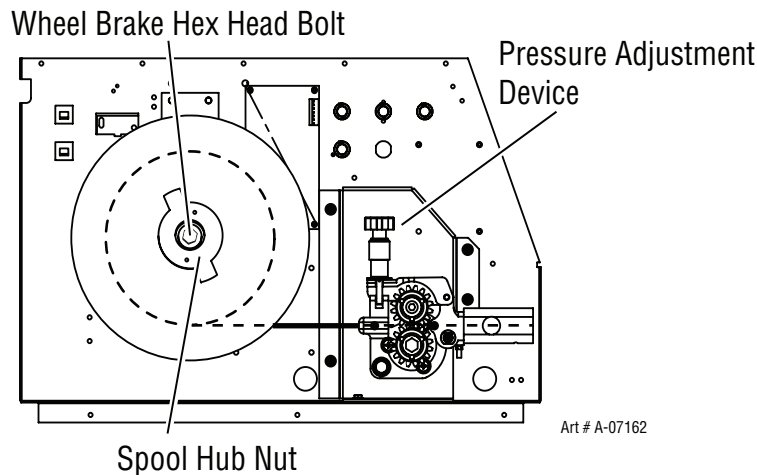

Figure 3-12: Wire Installed
The Hub tension has been pre-adjusted at the factory. However if adjustment is required, refer to section 3.12 and Figure 3-12.
8. Figure 3-12 shows the result with wire installed. Continue to the next section for proper setting of tension.
The wire reel hub incorporates a friction brake which is adjusted during manufacture for optimum braking. If it is considered necessary, adjustment can be made by turning the hex head bolt inside the open end of the wire reel hub. Clockwise rotation will tighten the brake. (Refer to Figure 3-12 above).